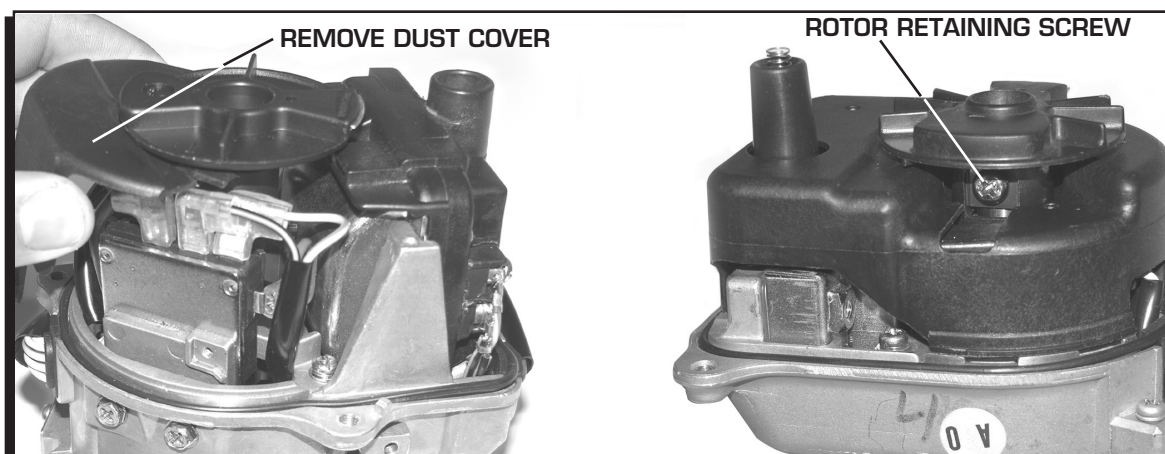

Figure 4 Replacing the Rotor.
5. Replace the rotor. Depending on the application, the dust cover may need to be removed or the engine may need to be rotated to access the rotor retaining screw (figure 4). Install the cap and wires.